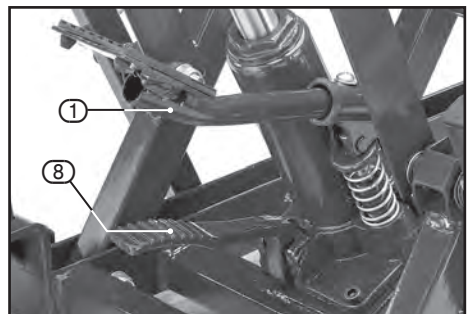

FIG.4
- Attach the hydraulic ram unit (6) to the lift base using the fixings provided. Noting that the unit will only attach in one orientation (FIG.4).
- Attach the handle (2) to the lift frame using fixing supplied.
- Locate the lift foot pedal (1) into the socket of the hydraulic ram unit (6.1) and secure using screw and washer (1.1).
- Extend the hydraulic ram unit, using the foot pedal (1) and lift the frame to allow the main pivot bolt (6.2) to be attached to the frame.
- Attach the rear castor wheels (3) to the frame.
8.2 BLEEDING THE HYDRAULIC SYSTEM – FIG.4